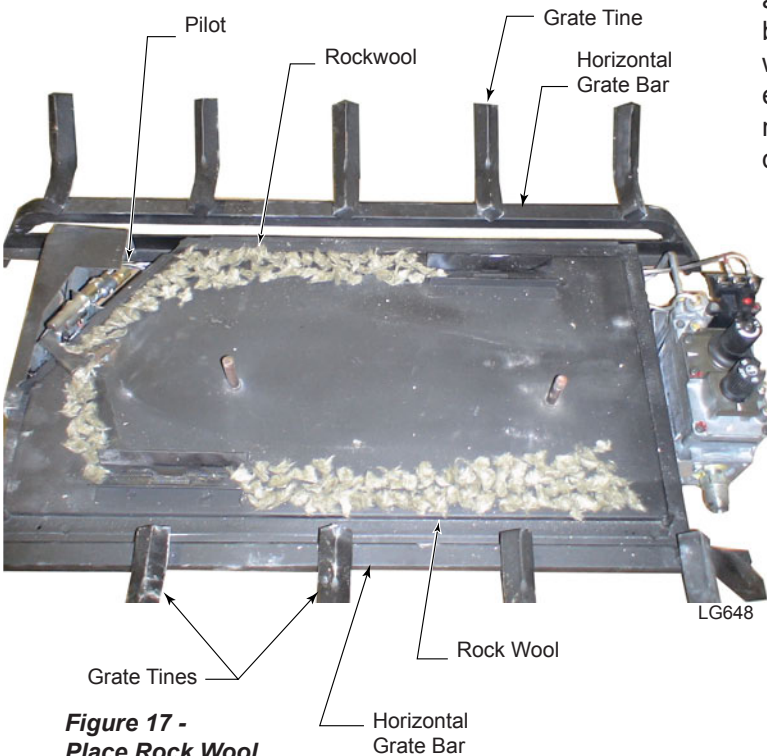

Figure 17 - Place Rock Wool
1. Place dime size pieces of rock wool evenly over small burner ports starting at pilot and down each side of burner. Avoid placing rock wool on slots on either side of burner between the air deflectors. *Figure 17*. Wash hands after placing rock wool. Skin irritation may occur.
8. Place log #8 by aligning 'V' notch in bottom of log with the horizontal grate bar between tines as shown in *Figure 17*. Place the rectangular notch on bottom of log onto rectangular protrusion on middle of log #1. *Figure 26*